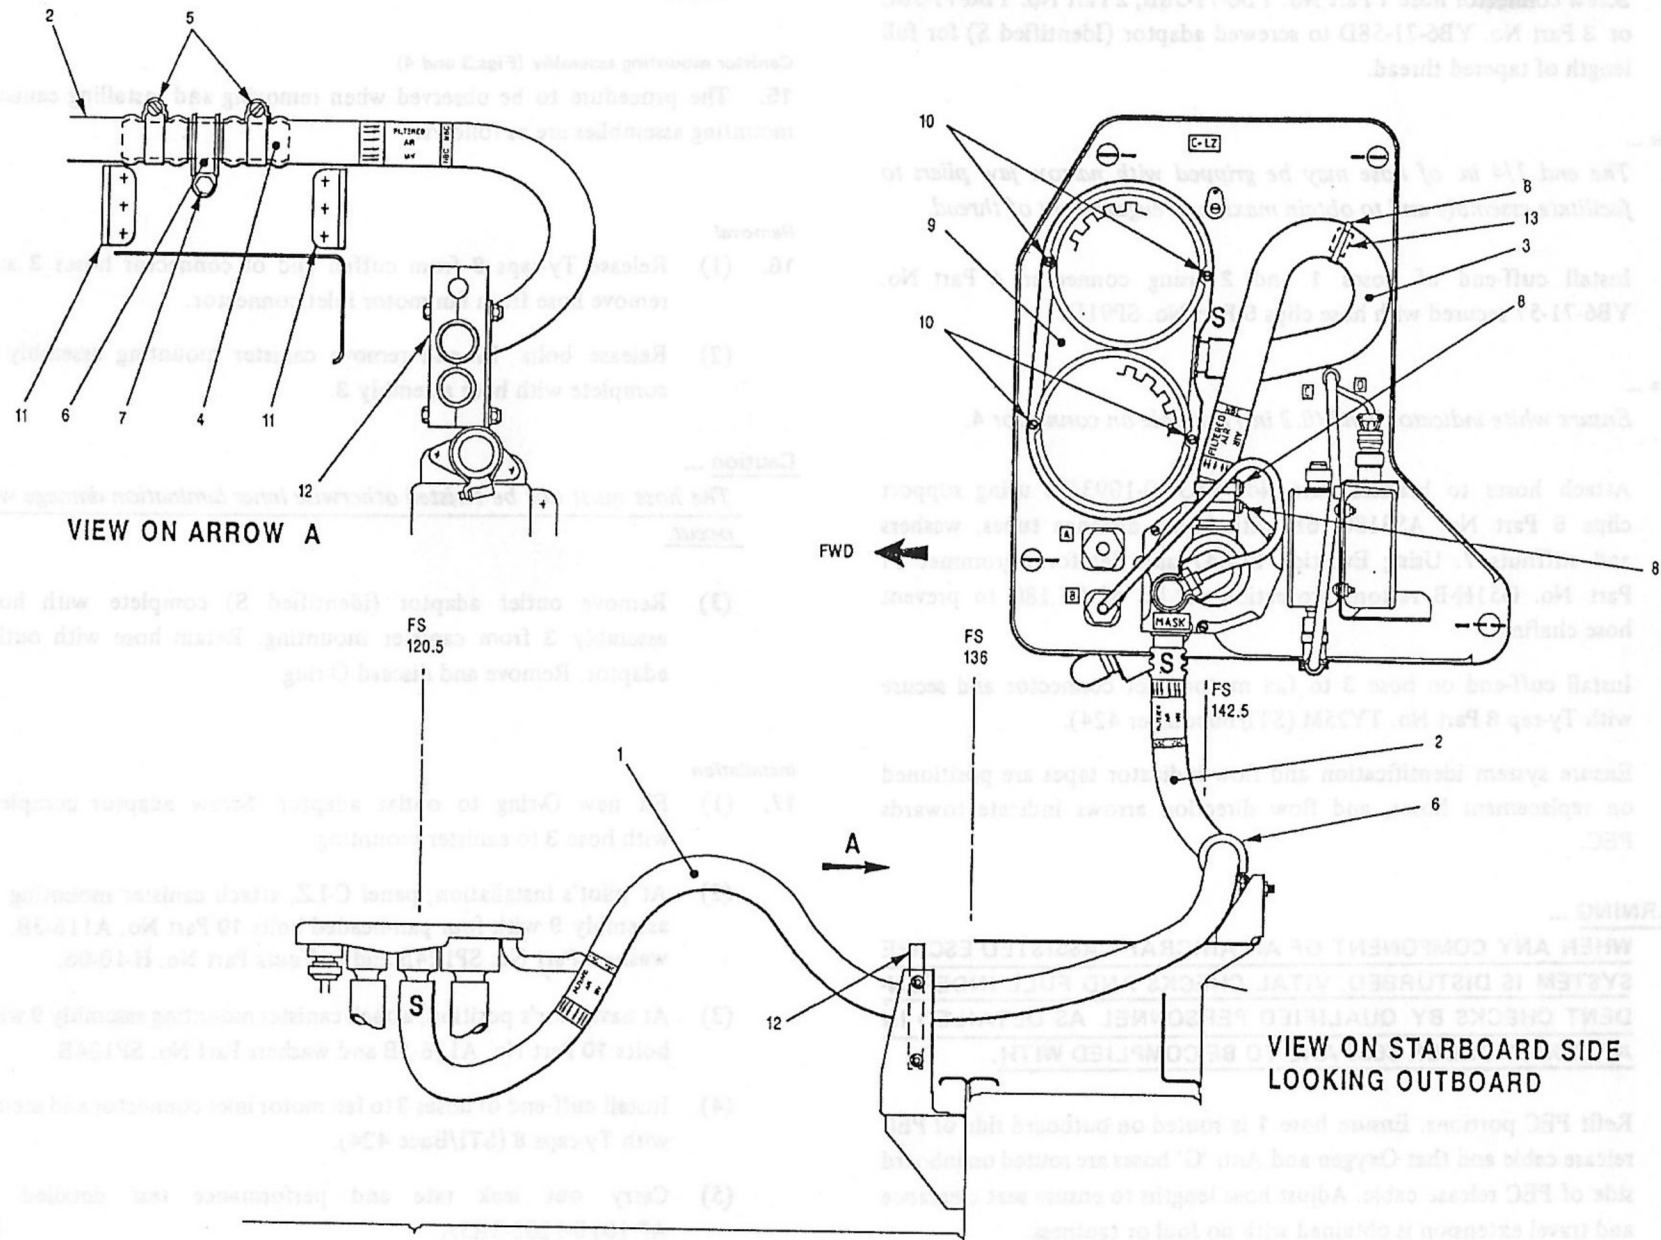

Fig.3 Pilot's NBC protection system
- (1) Ensure internal bore of hoses are scrupulously clean before connection.
- (2) Replacement hoses must not be twisted during assembly otherwise inner lamination damage will occur.
- (3) The use of any other lubricant except water, is not permitted.
13. Pilot's Installation (Fig.3)
Canister mounting assembly (Figs.3 and 4)